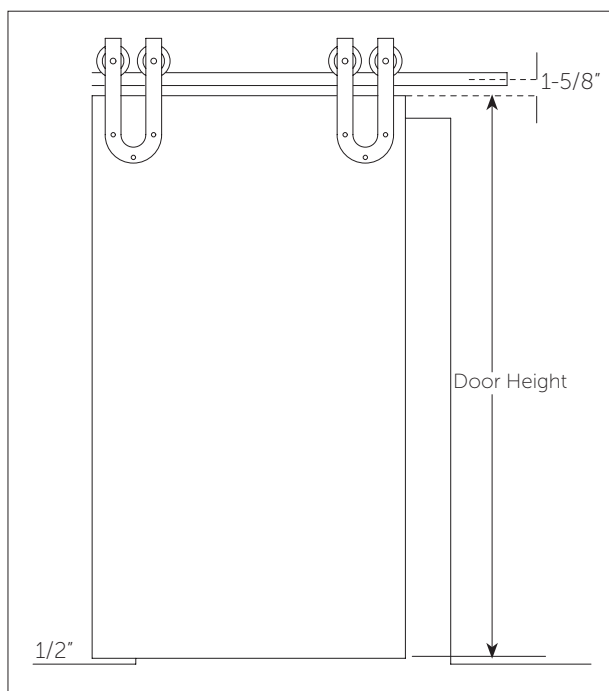

Figure 1
1. To determine where the track should be installed, first measure the height of the door, then add 2-1/8" to the door length. 1/2" will be for the clearance between the bottom edge of the door and the floor. 1-5/8" will be from the top edge of the door to the center of the track (Figure 1).